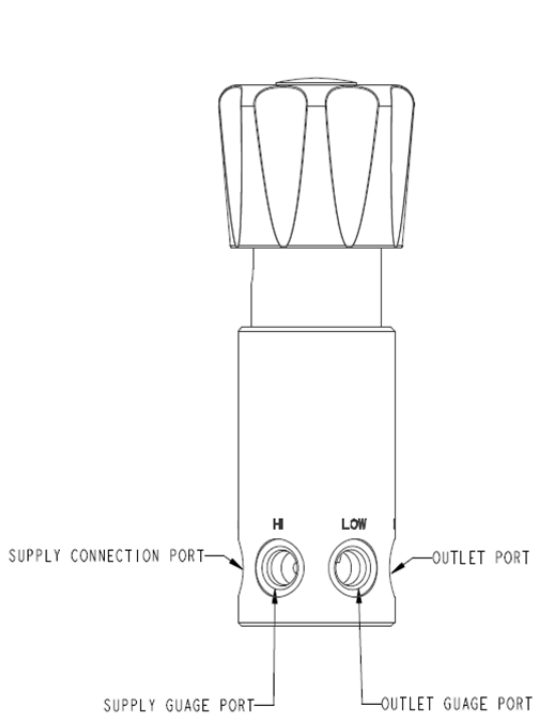

FIGURE 1: HP300 Regulator Port Locations
There are four (4) 1/4" NPTF connection on the HP300. The supply connection port is labeled "IN" and the supply gauge port is labeled "HI". The outlet port is labeled "OUT" and the outlet gauge port is labeled "LOW". Care should be exercised when installing the high pressure line to assure it is connected to the inlet ("IN") port, otherwise the regulator will not function properly. See figure 1 on page 5 for port identification drawing.